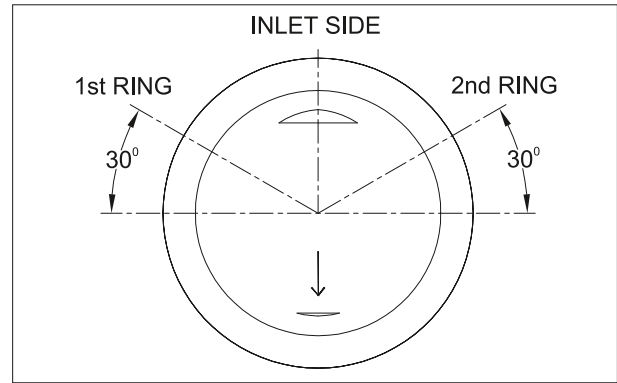

Fig. 3.145
- Assemble the ring piston 2nd keeping its open end gap towards inlet side of the piston at 30 degree to the right from the center. (Fig. 3.145)
- Assemble the ring piston 1st keeping its open end gap towards inlet side of the piston at 30 degree to the left from the center. (Fig. 3.145)